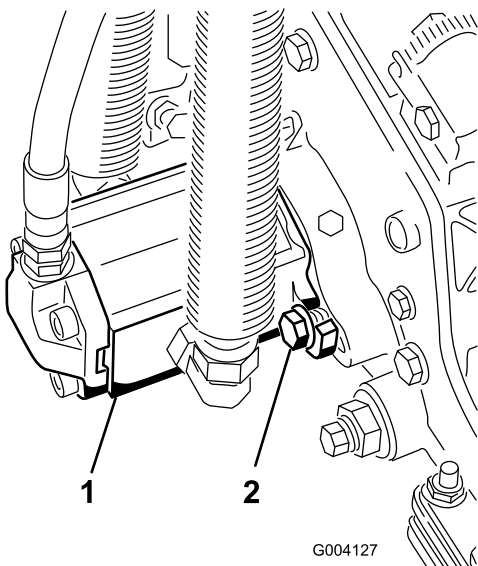

**Figure 19**
- Secure the lift arm chain to the chain bracket with the snapper pin (Figure 19). Use the number of chain links described in the cutting unit *Operator's Manual*.